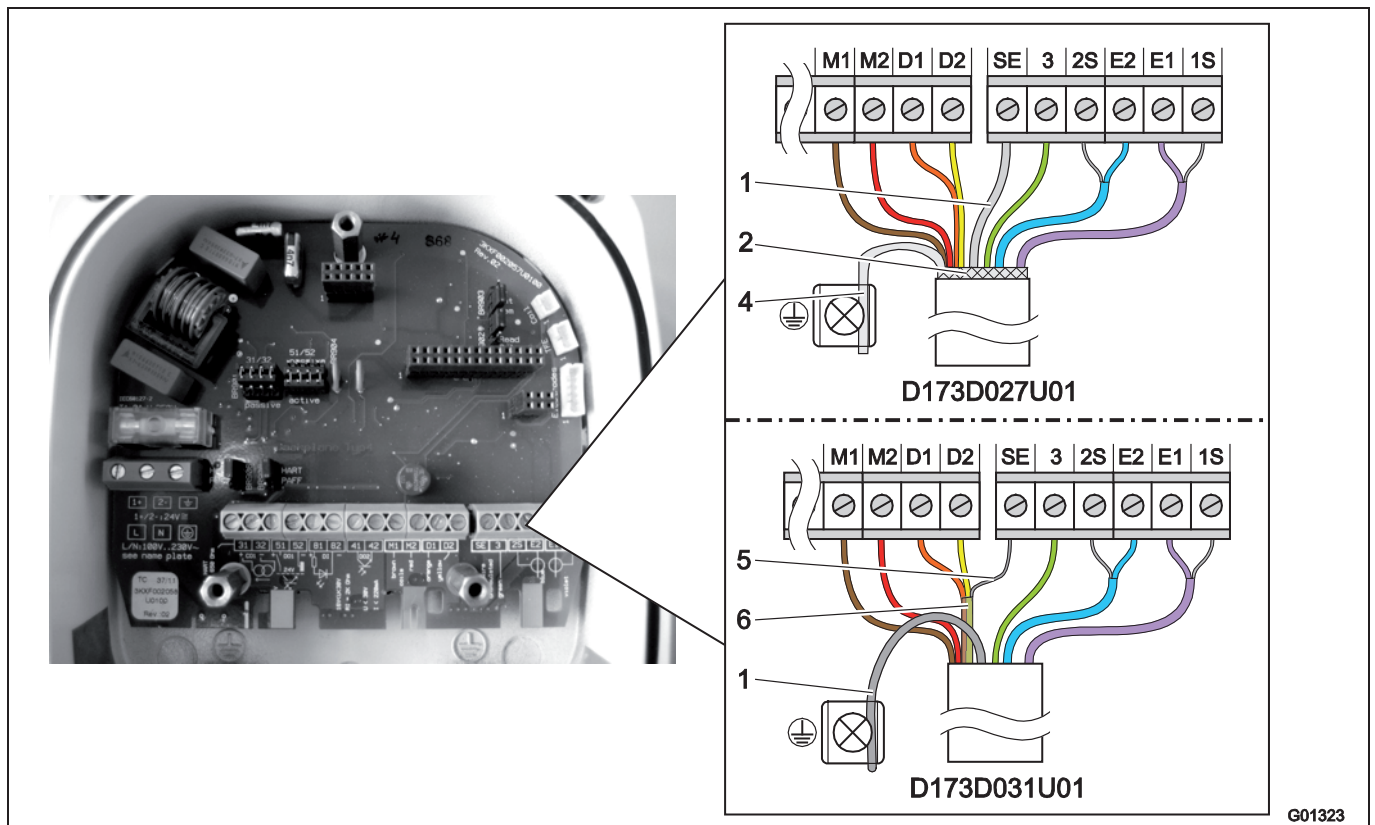

Fig. 37: Transmitter side, dimensions in mm (inch)
Prepare the cable end on the transmitter side as shown in Fig. 37.
- Connect all other wires as shown in Fig. 37.